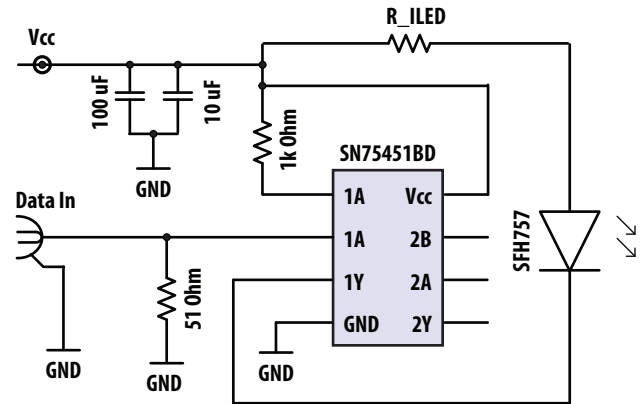

Figure 2. Measurement circuit
- Driver circuit for the characterization process: see Figure 2 (Vcc=5.0V; installed RILED = 100Ω)